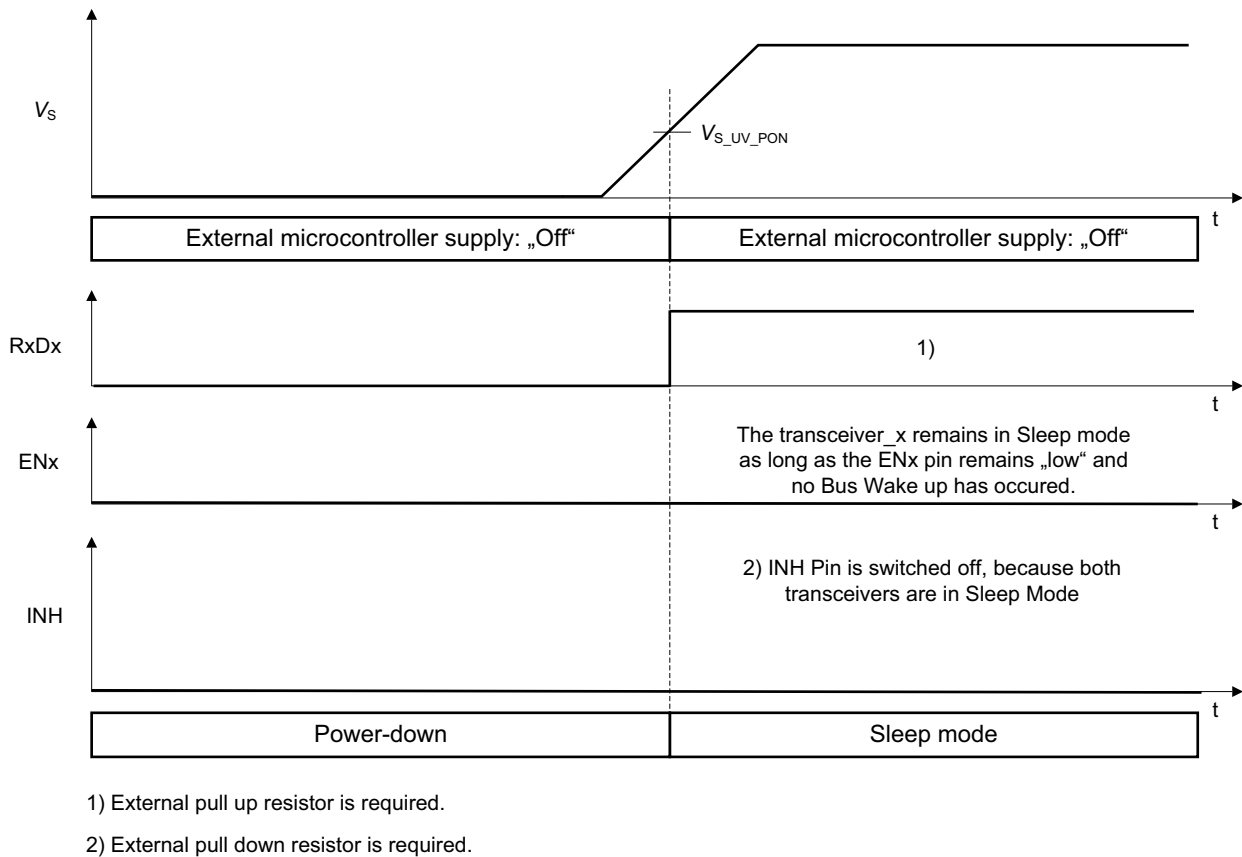

Figure 7 Transition from Power-down to Sleep mode
- The Sleep mode will be entered, if  $V_S$  exceeds the  $V_{S\_UV\_PON}$  threshold, while the ENx input pin remains “low” (see Figure 7).